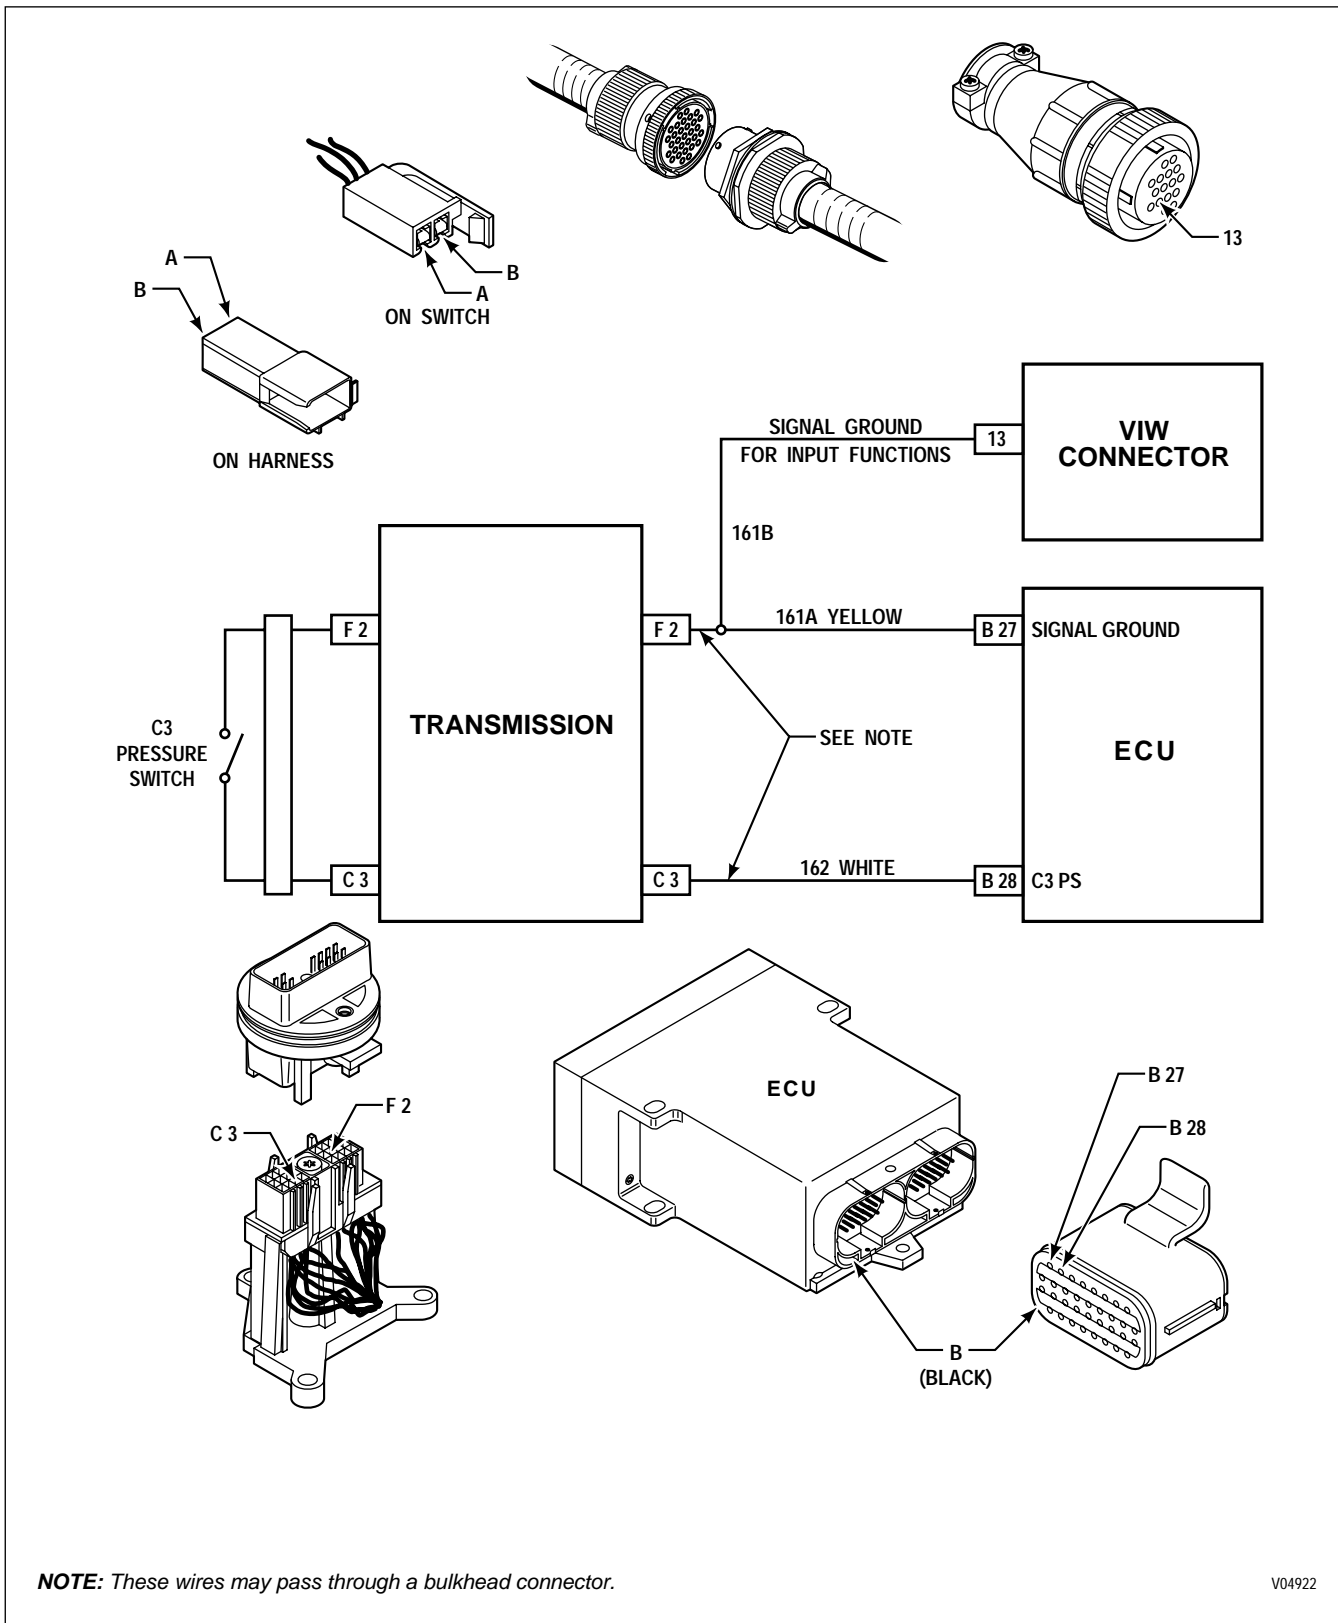

Figure 6-15. Code 32 Schematic Drawing (Units Produced Prior To 9/94)
**CODE 32 XX — C3 PRESSURE SWITCH** (*Figures 6-15, 6-16*)